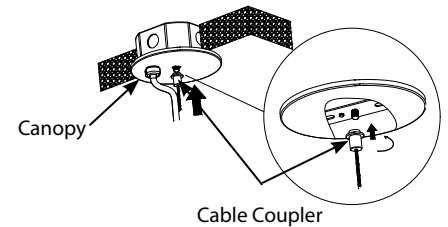

Fig: 26
6. For non-power side use recommended spacing to attach the support **Cross Brace**, **Canopy** and **Cable**, **Toggle Bolts** provided (Fig. 26, 27, 28).
6. For non-power side use recommended spacing to attach the support **Cross Brace**, **Canopy** and **Cable** (Fig. 26).
7. Connect the **Pendant Support Brackets** to the threaded **Locking Device**. Cable length can be adjusted by pressing down on the **Cable Locking Device**, see Fig. 26.